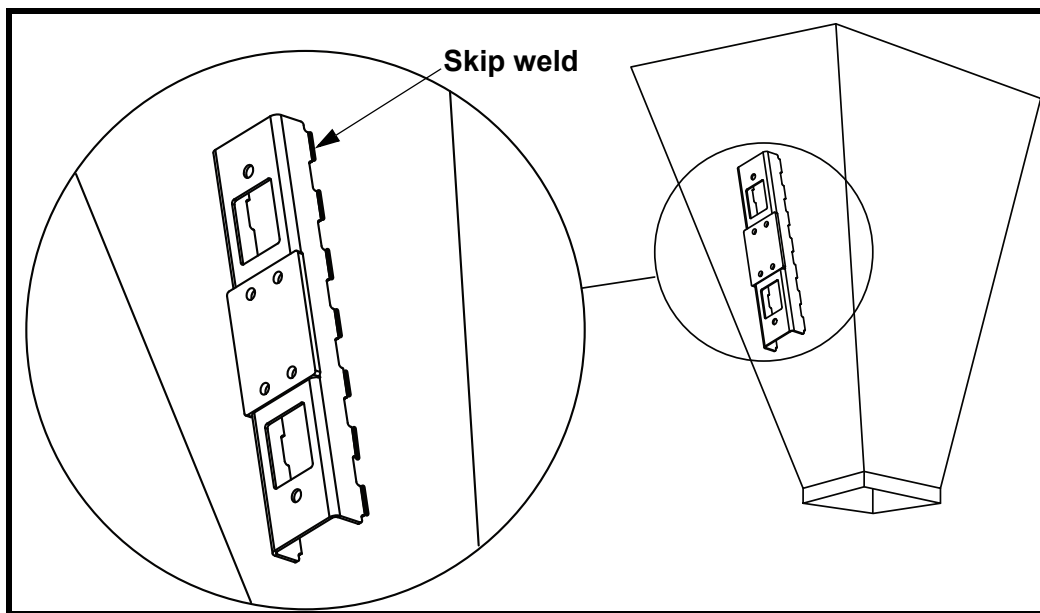

Figure 3. Skip Weld
- c. See Figure 3. Skip-weld beam in place: Weld tabs of channel to hopper wall. Repeat for entire perimeter of beam. Do not weld last 1 in. (25 mm) of either end of beam or any corner.